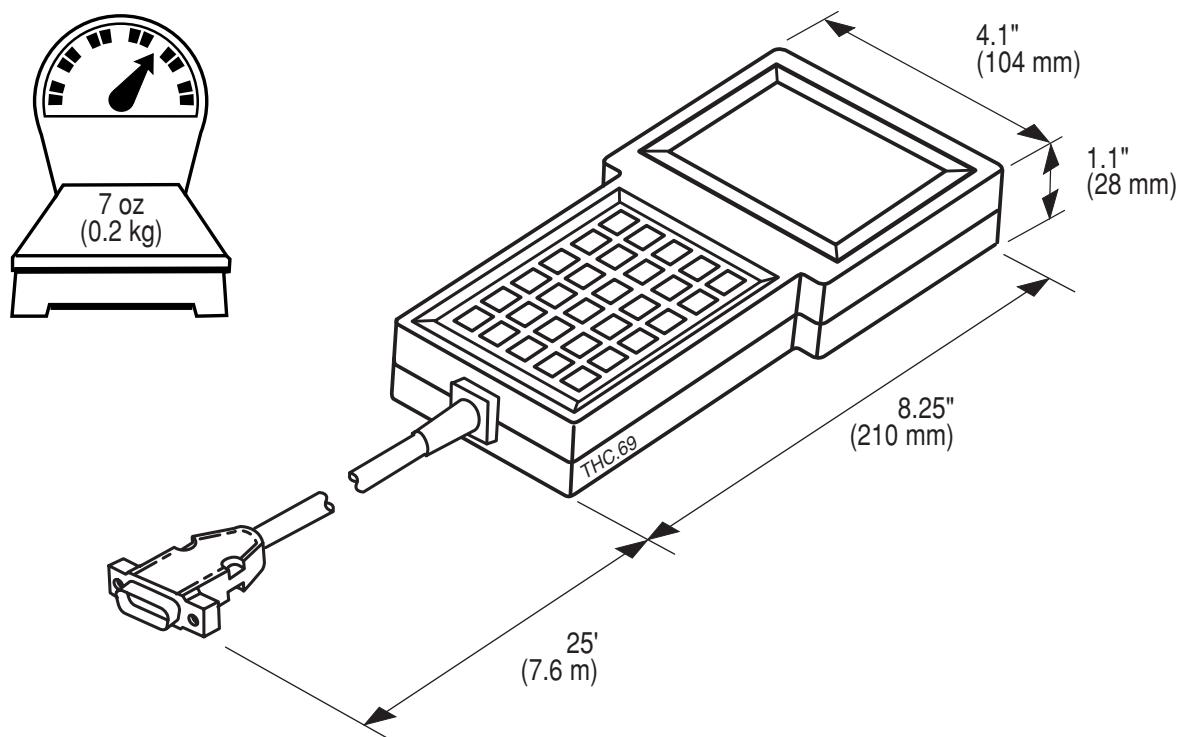

Figure 2-5 Operator pendant
- **Operator pendant (optional)** (Figure 2-5) The operator pendant is an optional remote control which includes an LCD display and keypad used for THC setup and control (parameter entry and menu selection). The main functions provided are: maintenance mode; arc voltage control/manual position mode; retract mid/full; IHS test/run; and voltage, cut height, and pierce delay setpoints; and access to setup and diagnostic screens.